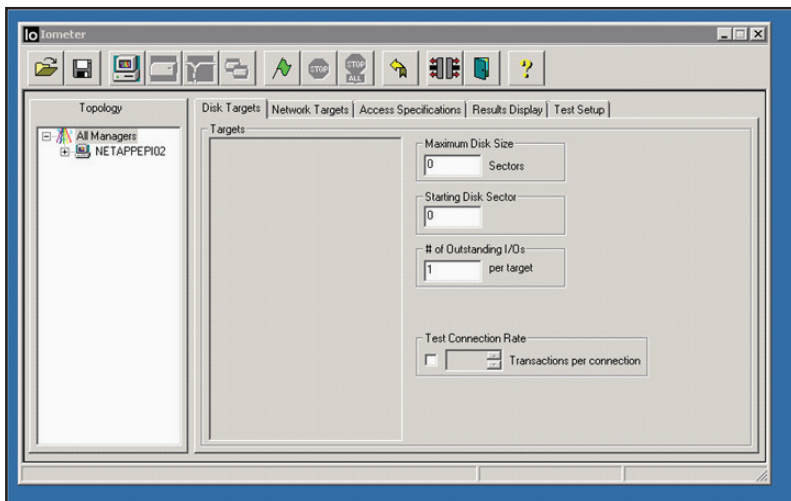

Figure 86
4. The default screen will appear as shown in Figure 86.